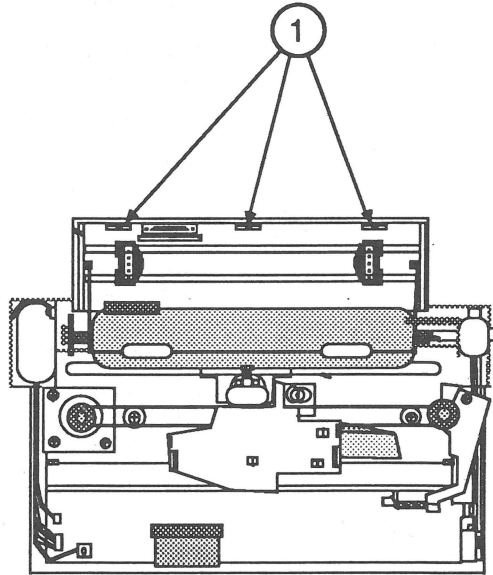

FIGURE 47
8. On later models, lift up the front of the frame and pull it toward you until it is completely out of the plastic portion of the bottom cover. If the frame does not clear the top rear of the bottom cover, push slightly at the top of the back edge above each of the three molded plastic frame holders (Figure 47, #1) of the bottom cover.